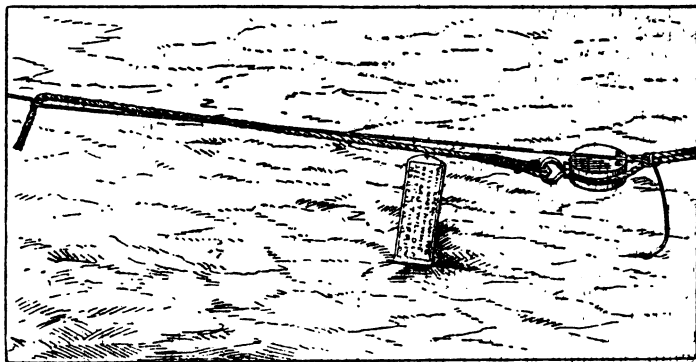

FIG. 5.—Manner in which shot line is bent to whip and tail.
(8) In the meanwhile No. 4 unloads and carries the crotch to a point on a line between the sand anchor and wreck, at a suitable distance from the water, on the bluff of the bank, if possible, and opens it wide, span on the left, the legs forming a straight line parallel with the beach, and then carries the breeches buoy and end of hawser to a point in front of the crotch, and as near the water as possible. If the wooden buoy block is used, he reeves the end of the hawser through it and attaches the tally board.
(9) Nos. 3 and 4 stretch the tackle from the sand anchor toward the crotch (3 at outer block, 4 at inner or white block), remove the straps, leaving it clear and ready to be placed upon the hawser.
(10) If a threefold tackle is used, No. 4 hooks the inner (white) block into the sand-anchor pennant.
(11) Communication being made with the wreck, No. 1 takes a round turn and two half hitches with the shot line around both parts of the whip immediately behind the block, while 2 makes a half hitch over the end of the tail of whip standing with the bight of the shot line. (See fig. 5.)